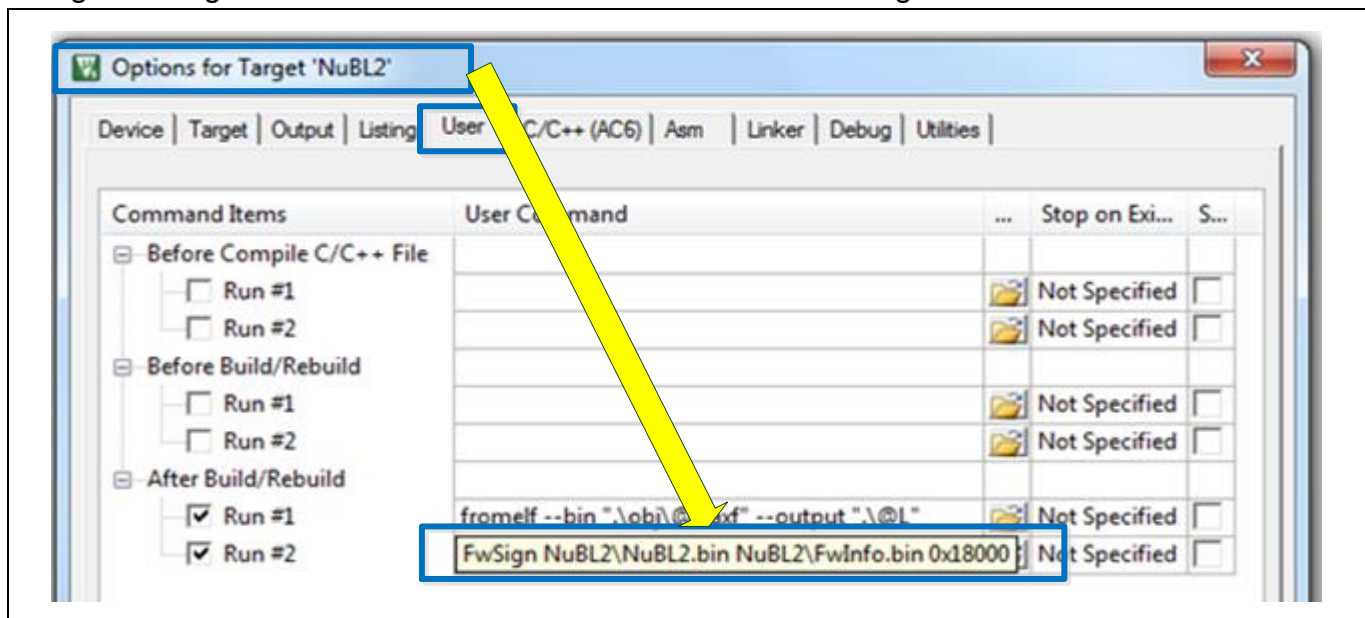

Figure 5-10 Configure FwSign.exe in NuBL2 Project
3. Open “After Build/Rebuild” in the “Options” and configure the parameters of FwSign for generating the NuBL2 firmware information as shown in Figure 5-10.